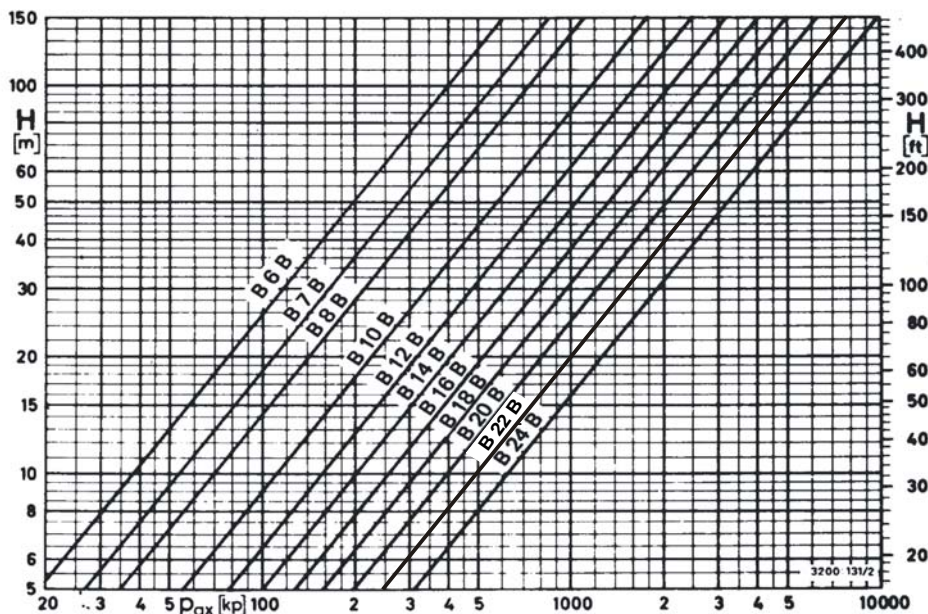

Fig 5 – Hydraulic axial thrust for Impeller type B.
- hydraulic axial thrust of the pump. Figs. 5 and 6;